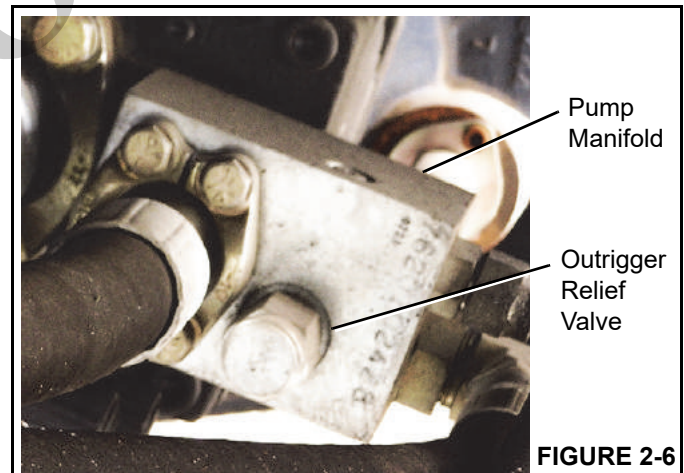

FIGURE 2-6
4. Activate the retract function for the selected outrigger. Adjust the relief pressure to 3000 (+100/-0) psi (20684 +689/-0 kPa). The relief valve for the outrigger circuit is located on the pump manifold (Figure 2-6).